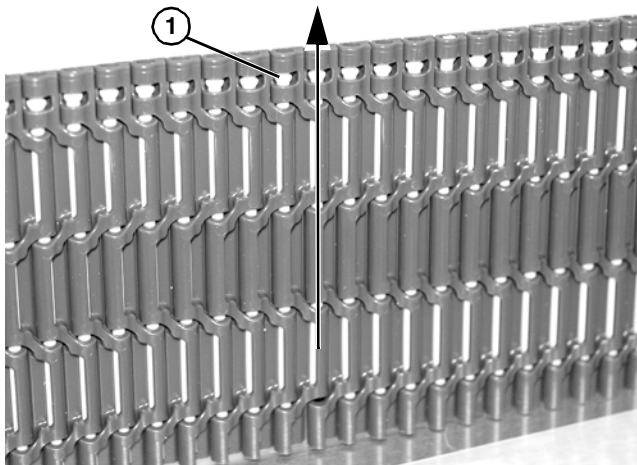

**Figure 95**
10. Remove four bolts (**Figure 95, item 1**) holding wear bar assembly (**Figure 95, item 2**) onto power transfer.